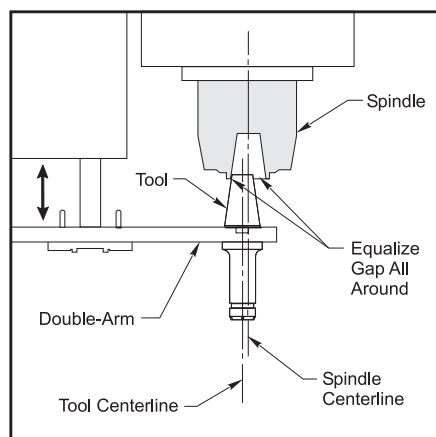

Figure 3.12-10 Double Arm to Spindle Center Alignment, along the Y-axis.
3. Raise and lower the double-arm to move the tool in and out of the spindle. Check for alignment. Refer to Figure 3.12-10.
4. Check the X-axis alignment of the tool holder to the spindle center. Refer to Figure 3.12-10.